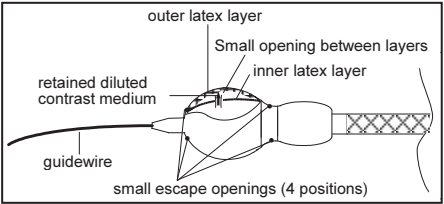

Figure 7
- NOTE:** If the balloon is subjected to twisting forces beyond those which it is designed to withstand, a small opening in the inner balloon layer may develop, thus allowing leakage of the radiopaque diluted contrast medium into the space between the two latex layers of the balloons. At this point, the outer wall of the balloon is the only layer which will expand (**See Figure 7**).
- If the balloon cannot be deflated, it must immediately be withdrawn from the valve orifice. The unique design of the catheter features 4 small holes (small escape openings) through which the diluted contrast medium will gradually escape. They are located 180° from one another in the outer latex layer of the distal part and center (waist) of the balloon. After withdrawing the balloon to the aorta, the user should then elongate the balloon by pushing inner tube into the Y-connector. The guidewire must extend beyond the catheter tip (**See Figure 7**). This action will facilitate and accelerate the flow of the diluted contrast medium from the balloon. If deflation is not complete within this time, wait several more minutes until the balloon has deflated spontaneously. At this time, ensure that the heparin has been administered in adequate amounts to prevent thrombus formation; an additional dose may be required. In this situation, do not use normal saline or any other fluid to inflate the balloon. Do not attempt to expand the balloon to the point of rupture, as several times the maximum inflation volume is required for rupture to occur.